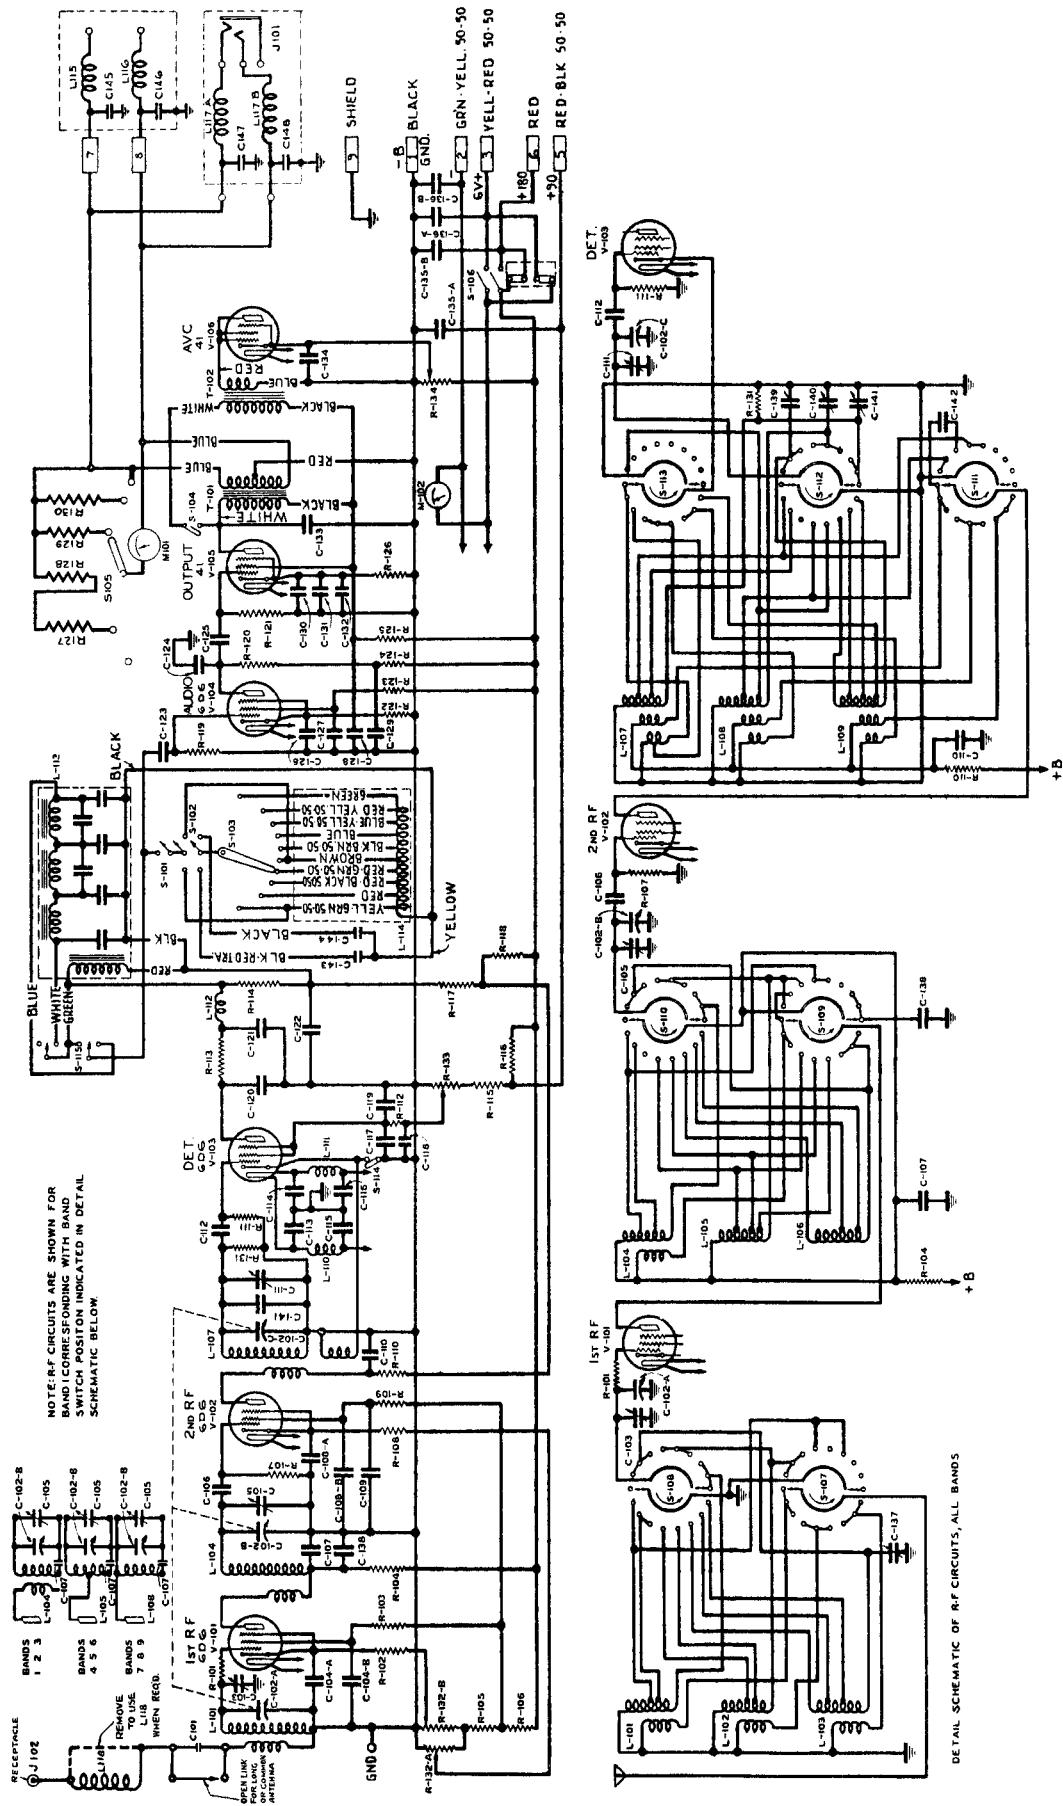

Figure 17—Schematic Diagram, Receiver Unit CRV-46156 (T-621284)
12.15-4 Component parts may be identified by cross reference from the item numbers in Figures 17 and 18.